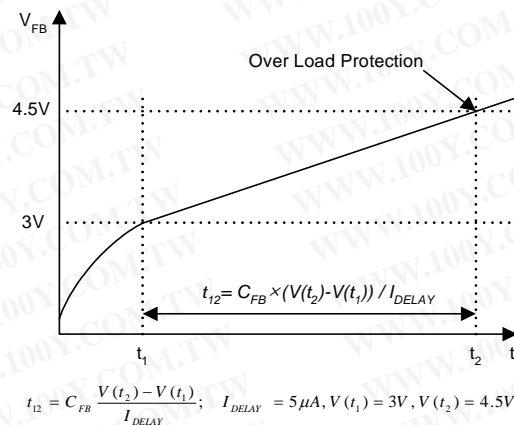

Figure 8. Over Load Protection (OLP)
**4.1 Over Load Protection (OLP) :** Overload is defined as the load current exceeding a pre-set level due to an unexpected event. In this situation, the protection circuit should be activated in order to protect the SMPS. However, even when the SMPS is operating normally, the over load protection (OLP) circuit can be activated during the load transition. In order to avoid this undesired operation, the OLP circuit is designed to be activated after a specified time to determine whether it is a transient situation or an overload situation. In conjunction with the Ipk current limit pin (if used) the current mode feedback path would limit the current in the Sense FET when the maximum PWM duty cycle is attained. If the output consumes more than this maximum power, the output voltage (Vo) decreases below its rating voltage. This reduces the current through the opto-coupler LED, which also reduces the opto-coupler transistor current, thus increasing the feedback voltage (VFB). If VFB exceeds 3V, the feedback input diode is blocked and the 5uA current source (IDELAY) starts to charge Cfb slowly up to Vcc. In this condition, VFB increases until it reaches 4.5V, when the switching operation is terminated as shown in Figure 8. The shutdown delay time is the time required to charge Cfb from 3V to 4.5V with 5uA current source.